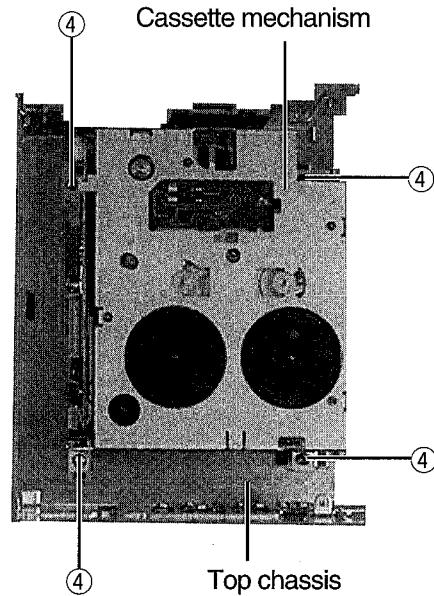

Fig. 8
**■ Removing the Cassette Mechanism ( See Fig. 8 )**
5. Remove the four screws ④ retaing the cassette mechanism.